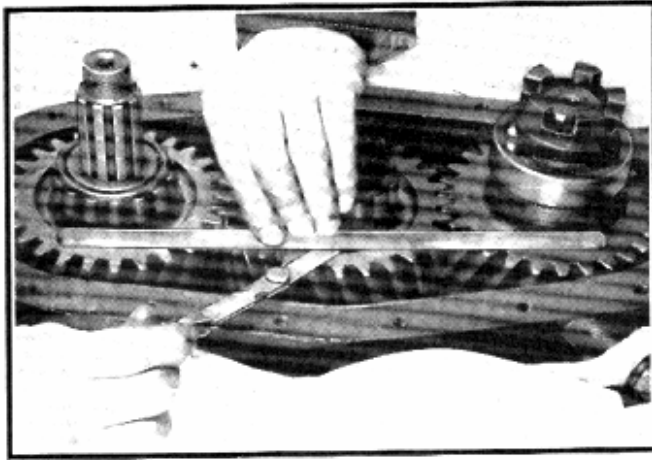

Fig. 34—Checking Alignment of Gears
8. Lay a straight edge across the face of the gears as shown in Fig. 34 and check the alignment of the gears with respect to each other. Since the idler shaft is the only one adjustable it will be necessary to either add or remove shims from the front bearing cap (44) until the face of the idler gear is flush with the faces of the main and driven gears.